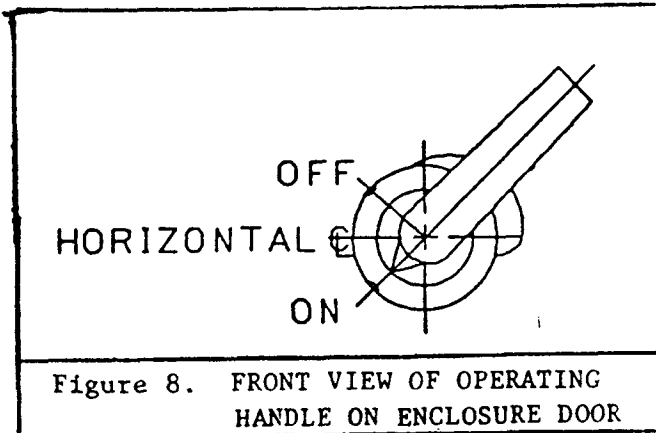

Figure 8. FRONT VIEW OF OPERATING HANDLE ON ENCLOSURE DOOR
11. Position operating handle on outside of enclosure door over holes drilled in Step 7. See Figure 8 for correct positioning. Secure handle to door using three 1/4-20 x 7/16" screws.